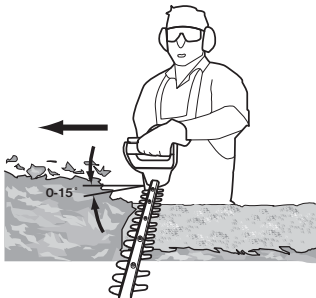

Fig. 14
- > After cutting the sides proceed to the top (Fig. 14).